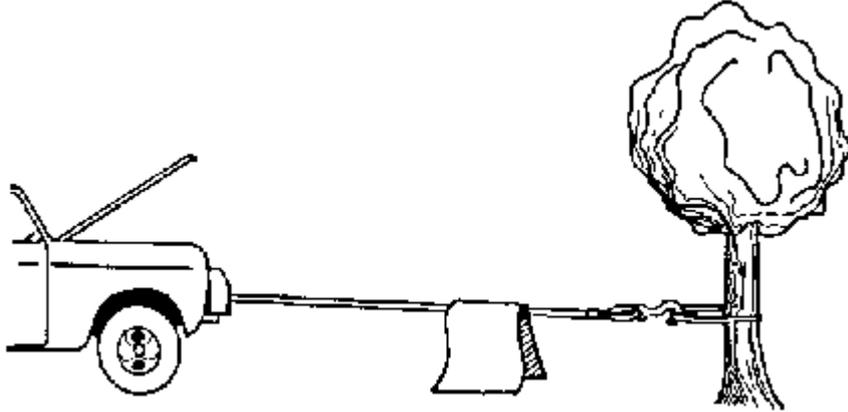

Fig. 9
1.16 It is recommended to lay a heavy blanket or jacket over the rope about halfway along to the hook attachment. If a rope failure should occur, the weight of the clot will act as a damper and help prevent the broken rope from whipping. See Fig. 9. Remember to move the blanket or coat as winching proceeds, but halt winching when doing so. Partially raising the bonnet of the vehicle will also give a measure of protection to it's occupants from a broken rope, consistent with sufficient forward visibility for the operator. Keep item 1.2 firmly in mind.